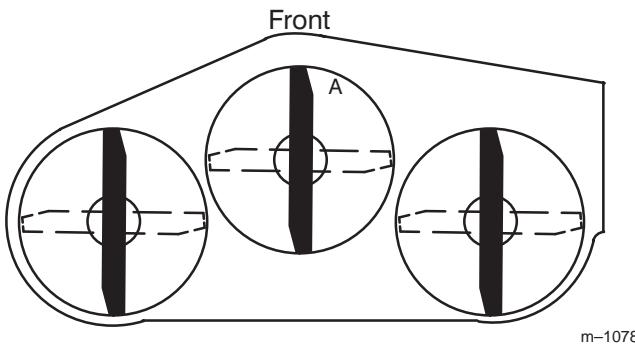

Figure 71
3. With the machine on level surface, position one blade front-to-rear (Fig. 71). Measure at **A** and from level surface to the cutting edge of the blade tips (Fig. 71).